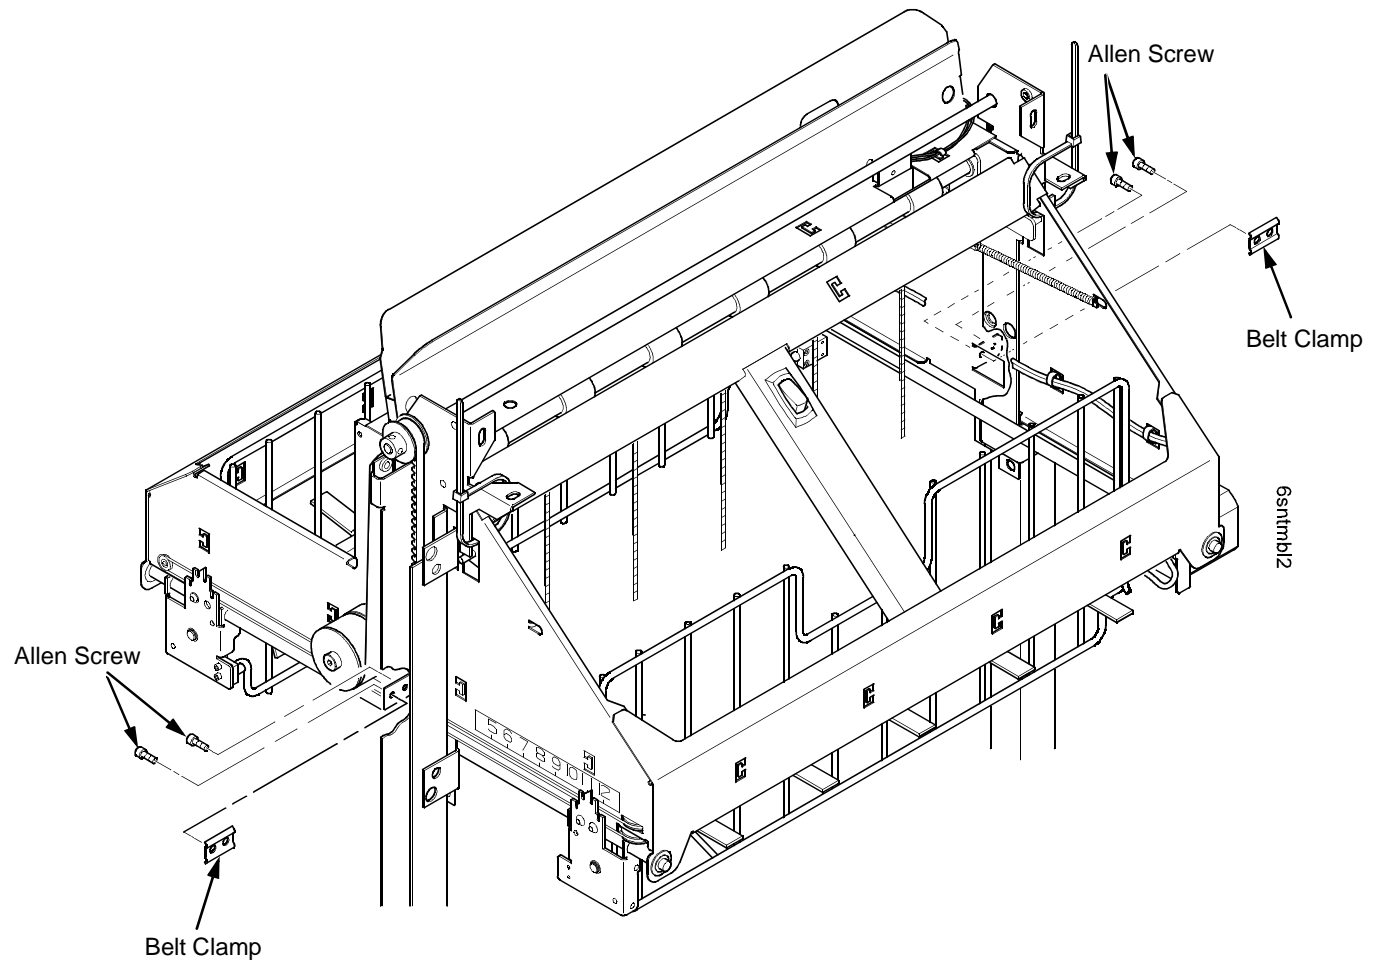

Figure 104. This figure shows how to remove the timing belt clamps.
7. Remove two Allen screws from the belt clamp that secures the timing belt to the stacker frame. (Figure 104.)